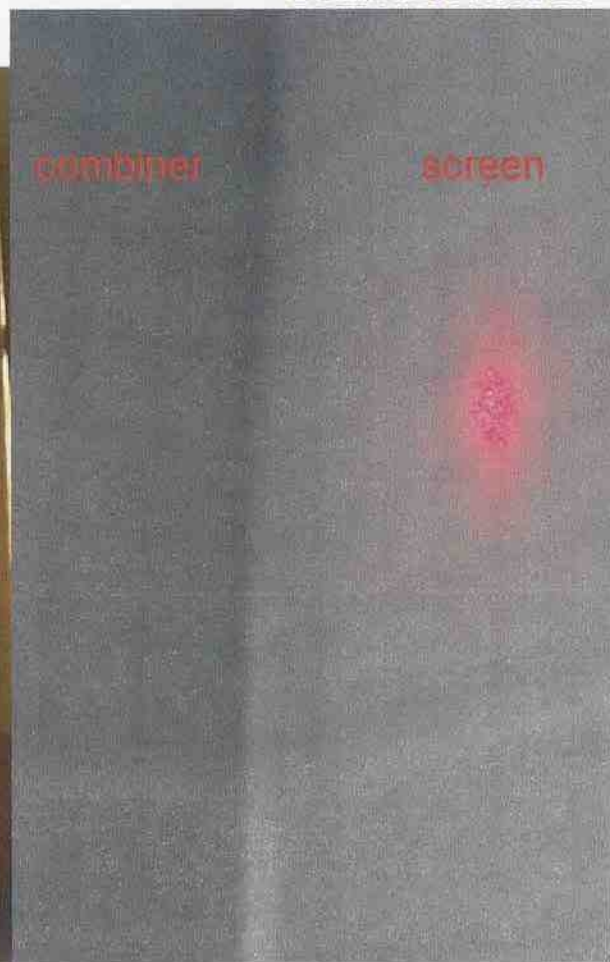

Fig.5 The F12 beam is focused on combiner screen.
(9) Set up combiner screen as the figure at the lower right corner of Fig.5. The laser spot on the screen is ~25mm from the combiner center edge (Fig.4).
(11) Adjust the hole to be 6cm from the lens focus to simulate the F#12 beam (light blue) as CSO
(12) Adjust the lens to center the F12 beam image at the position from (3)
(13) Install Box IV. Record image on the combiner screen (Fig.5)